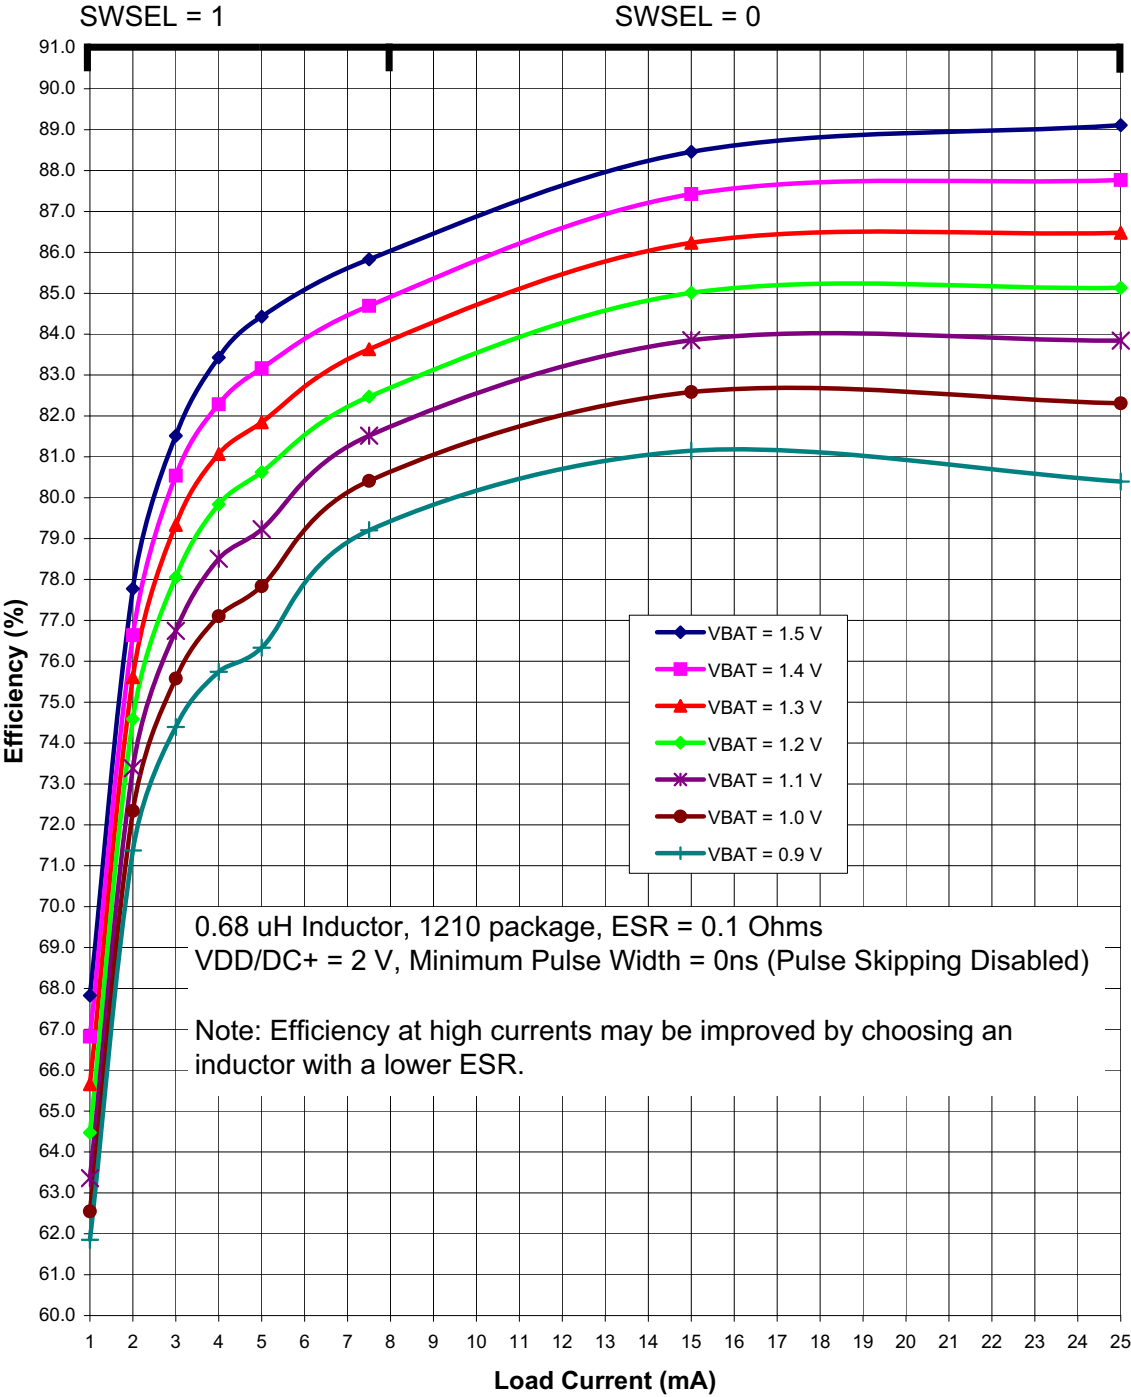
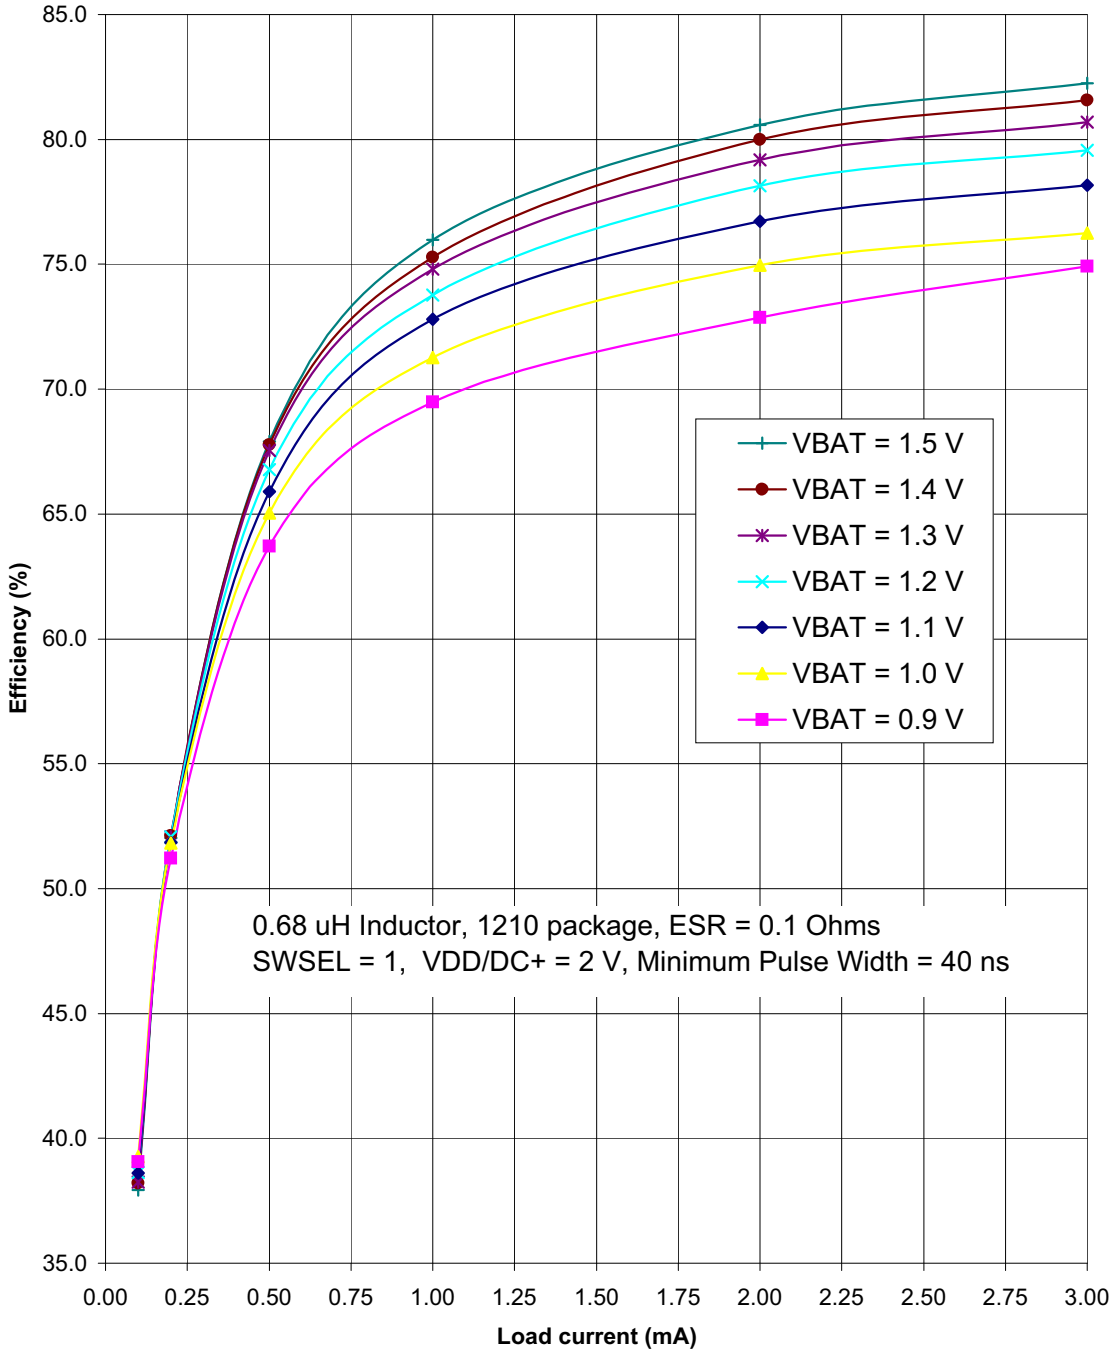

Figure 4.3. Typical DC-DC Converter Efficiency (High Current, VDD/DC+ = 2 V
Figure 4.5. Typical DC-DC Converter Efficiency (Low Current, VDD/DC+ = 2 V)
<ol style="list-style-type: none"> Based on device characterization data; Not production tested. SYSCLK must be at least 32 kHz to enable debugging. Digital Supply Current depends upon the particular code being executed. The values in this table are obtained with the CPU executing an “sjmp \$” loop, which is the compiled form of a while(1) loop in C. One iteration requires 3 CPU clock cycles, and the flash memory is read on each cycle. The supply current will vary slightly based on the physical location of the sjmp instruction and the number of flash address lines that toggle as a result. In the worst case, current can increase by up to 30% if the sjmp loop straddles a 128-byte flash address boundary (e.g., 0x007F to 0x0080). Real-world code with larger loops and longer linear sequences will have few transitions across the 128-byte address boundaries. Includes oscillator and regulator supply current. IDD can be estimated for frequencies ≤10 MHz by simply multiplying the frequency of interest by the frequency sensitivity number for that range, then adding an offset of 90 µA. When using these numbers to estimate IDD for >10 MHz, the estimate should be the current at 25 MHz minus the difference in current indicated by the frequency sensitivity number. For example: VDD = 3.0 V; F = 20 MHz, IDD = 4.1 mA – (25 MHz – 20 MHz) x 0.120 mA/MHz = 3.5 mA. The Supply Voltage is the voltage at the VDD_MCU pin, typically 1.8 to 3.6 V (default = 1.9 V). Idle IDD can be estimated by taking the current at 25 MHz minus the difference in current indicated by the frequency sensitivity number. For example: VDD = 3.0 V; F = 5 MHz, Idle IDD = 2.5 mA – (25 MHz – 5 MHz) x 0.095 mA/MHz = 0.6 mA. The supply current specifications in Table 4.2 are for two cell mode. The VBAT current in one-cell mode can be estimated using the following equation: $\text{VBAT Current (one-cell mode)} = \frac{\text{Supply Voltage} \times \text{Supply Current (two-cell mode)}}{\text{DC-DC Converter Efficiency} \times \text{VBAT Voltage}}$ <p>The VBAT Voltage is the voltage at the VBAT pin, typically 0.9 to 1.8 V. The Supply Current (two-cell mode) is the data sheet specification for supply current. The Supply Voltage is the voltage at the VDD/DC+ pin, typically 1.8 to 3.3 V (default = 1.9 V). The DC-DC Converter Efficiency can be estimated using Figure 4.3–Figure 4.5.</p> The radio peripheral is placed in Shutdown mode.